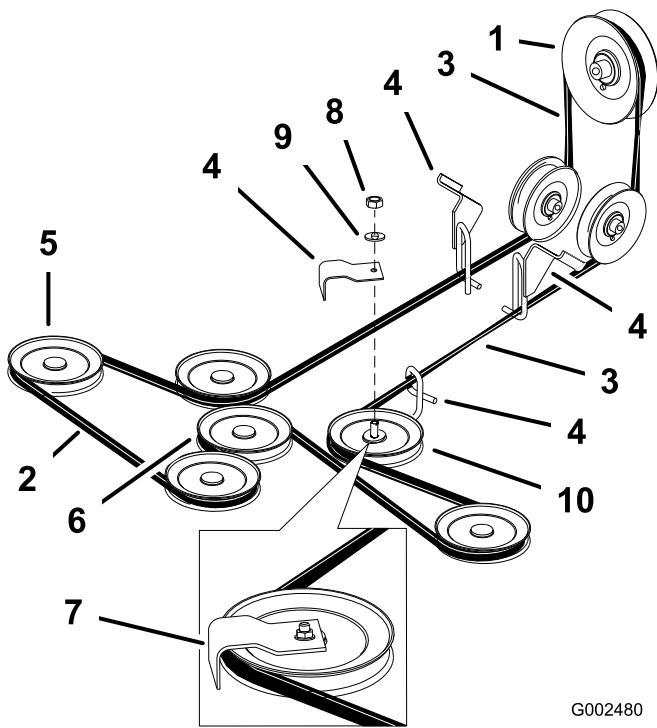

Figure 54
4. Loosen the nut securing the idler plate and move the idler plate to relieve the belt tension on the idler pulley (Figure 54).
6. Remove the mower belt from the belt guides and remove the belt (Figure 54).
7. Install the new mower belt around the mower spindle pulleys, mower idler pulley, into the belt guides, into rear idler arm assembly, and the clutch (Figure 54).
Note: Check the amount of twist in the belt between the pulleys. Ensure it is only what is specified in Figure 54.
- Important:** Check the amount of twist in the belt between the pulleys. Make sure it is only what is specified in Figure 54.